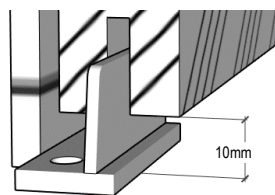

FIG.4
* Refer fig.4 for floor clearance diagram